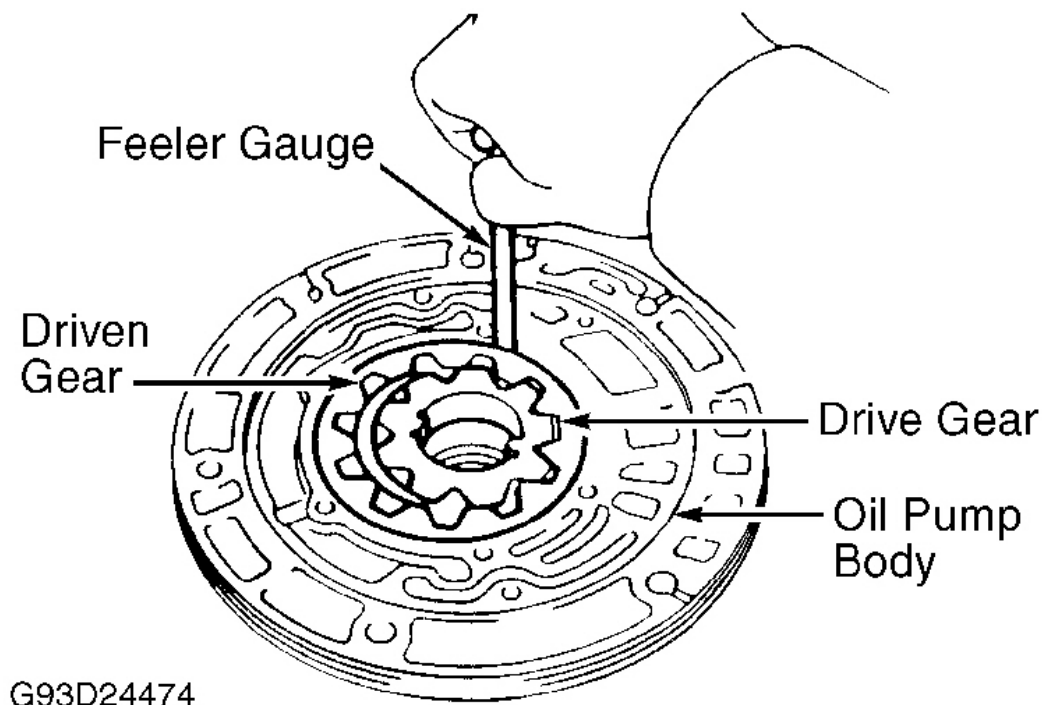

Fig. 18: Checking Oil Pump Driven Gear Clearance
1. Note position of oil pump gears. Clean all parts with solvent. Use compressed air to ensure oil passages are clear. Check driven gear-to-body clearance. Push driven gear against one side of pump. Using a feeler gauge, measure clearance between driven gear and pump body. See **Fig. 18** . Replace pump housing if clearance is not within specification. See **OIL PUMP CLEARANCE SPECIFICATIONS** table.